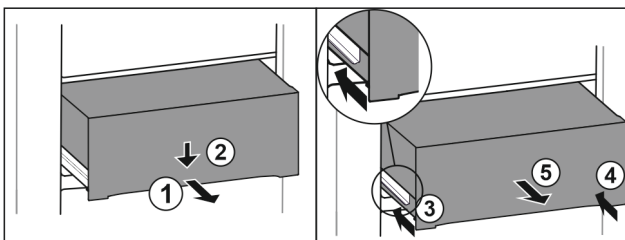

Fig. 72
- ▶ Pull out drawer half-way. Fig. 72 (1)
- ▶ Push the drawer down at the front. Fig. 72 (2)
- ▶ Push the left rail in by about 2 cm. Fig. 72 (3)
- ▶ Push the right rail in by about 2 cm. Fig. 72 (4)
- ▶ Remove drawer to the front. Fig. 72 (5)